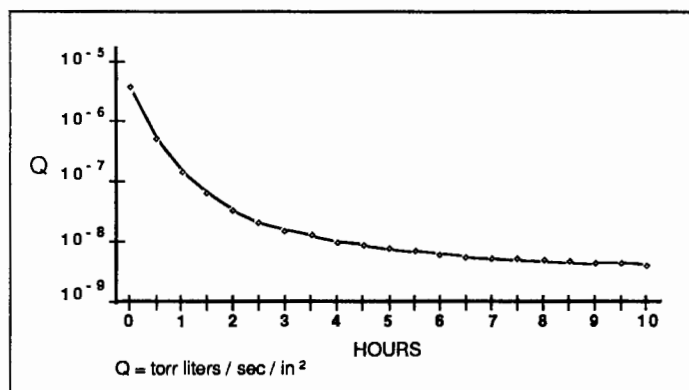

Figure 1. Water Desorption Rate
Since the predominant gas in the residual gases is water vapor for an untreated system under high vacuum, the pumpdown performance of the system will depend upon the pumping of the water vapor. Under untreated conditions, the desorption rate of the water molecules from the inner surfaces of the system will follow the curve shown in Figure 1. The desorption rate becomes lower with time as the system is pumped upon. Barring
The prediction of actual pumpdown performance can be very tricky in that the number of variables and unknowns can be very large. For example, it is possible to calculate the amount of surface area of the inside of a chamber in the geographical sense, but it is almost impossible to calculate the topographical surface area since the actual roughness, porosity, etc. will have a very large effect on the "real" surface area. Since the rates for water desorption shown in Figure 1 are "averages," actual rates can vary wildly. It is much more reasonable to base predictions on comparative known or measured performances.
If a leak tight system is pumped down to a constant (equilibrium) pressure, the gas load (Q) can be easily calculated since pumping speed and pressure are known. The measured desorption rate/sq. in. can then be compared with the rate shown in Fig. 1. For example, if it is higher; a higher wattage of Phototron UV would be recommended than that for an equal calculated surface area.
The pumping speed required to efficiently deal with the gas load (Q) encountered when using a Phototron with a recommended wattage of 2.5 mw/sq. in. can be easily calculated by assuming that the gas load will be approximately one order of magnitude higher than shown in Figure 1 at equivalent time periods. For example: